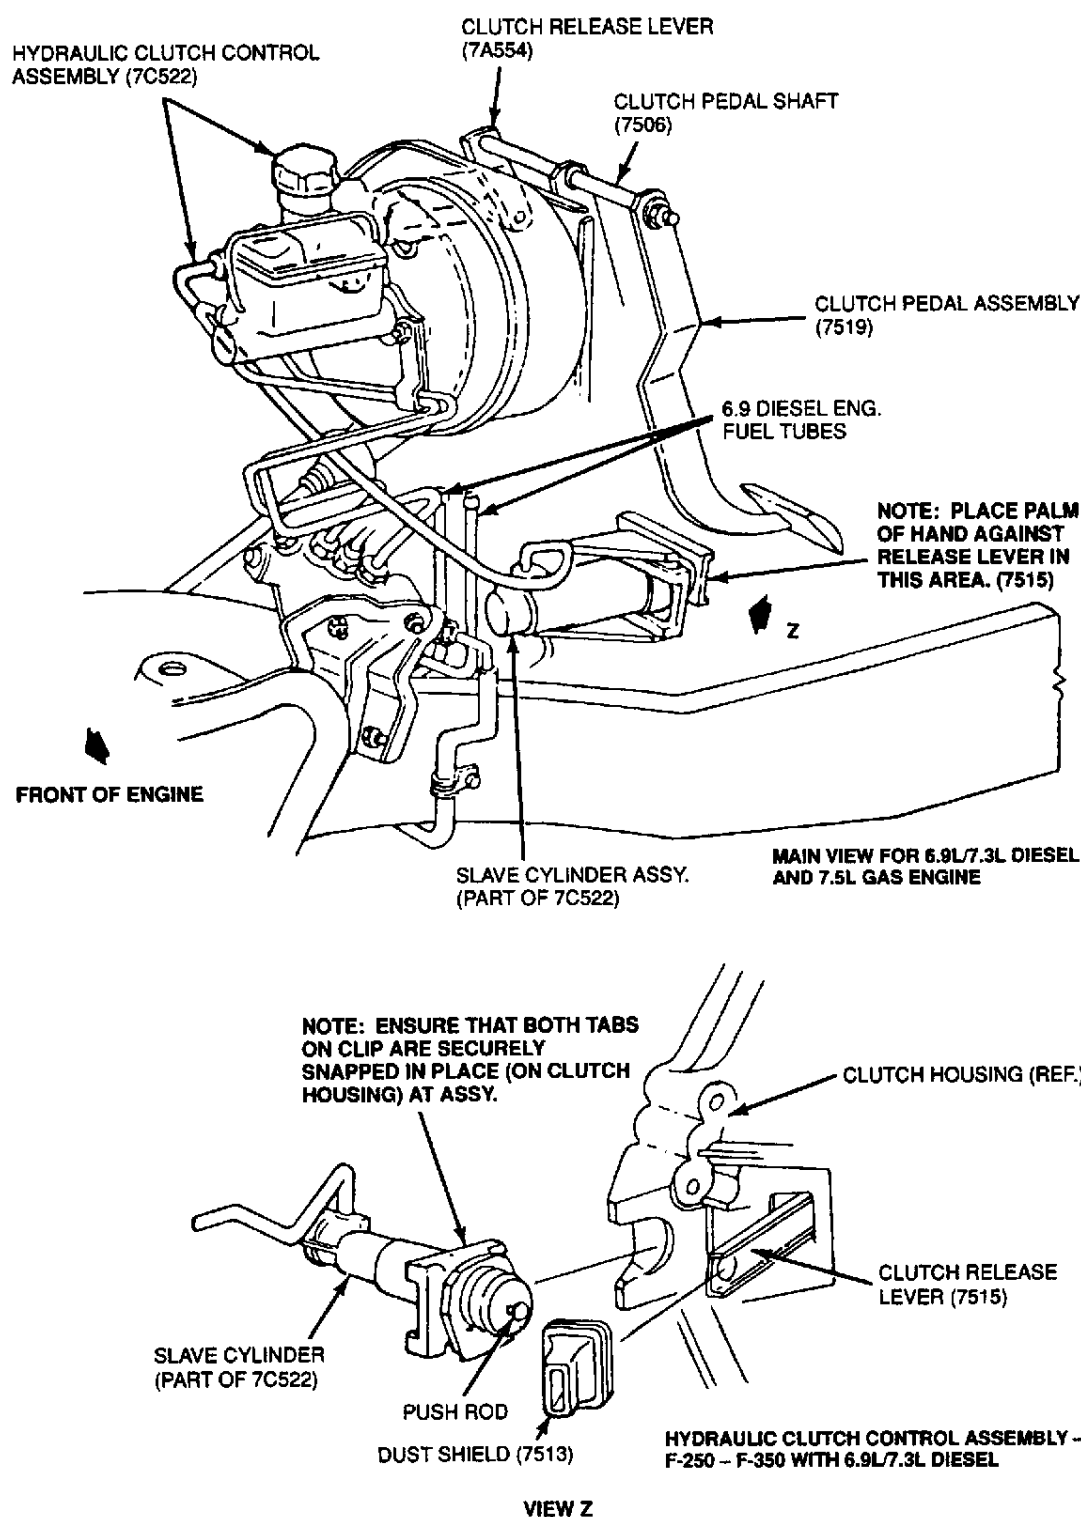

Fig. 12: Clutch Control Assembly (Diesel Engine)
3. From below the truck, push the release lever slowly towards the front of the truck several times. Fig. 11 & Fig. 12 .